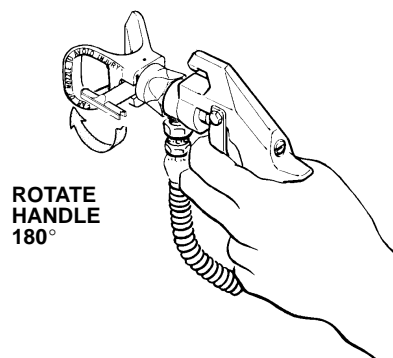

Fig 5
- If using the RAC IV Spray Tip Kit**, rotate the RAC IV handle 180°. See Fig 5. Disengage the gun safety latch. Trigger the gun into a grounded waste container. Engage the gun safety latch again. Return the handle to the original position.